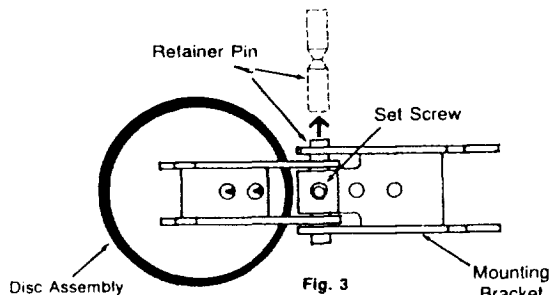

Fig. 3
4. Reach in through the access opening and remove the entire clapper assembly. Opening the clapper assembly, and laying it flat on a table (refer to Fig. 3).
**IMPORTANT:** Each repair kit fits (1) one check module only order two of the same kit for complete service.